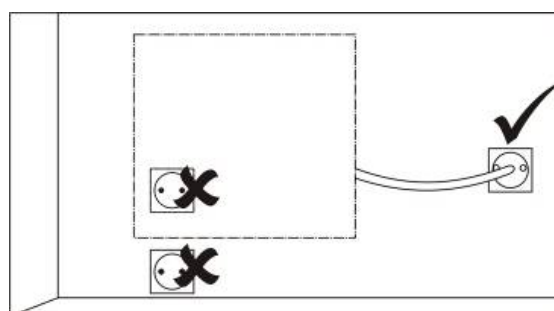

Figure 2.
2. The panel convector must not be installed immediately below a wall socket. The heater must be connected to a socket outlet or permanent terminal box at least 10cm to one side of the heater (see Figure 2).